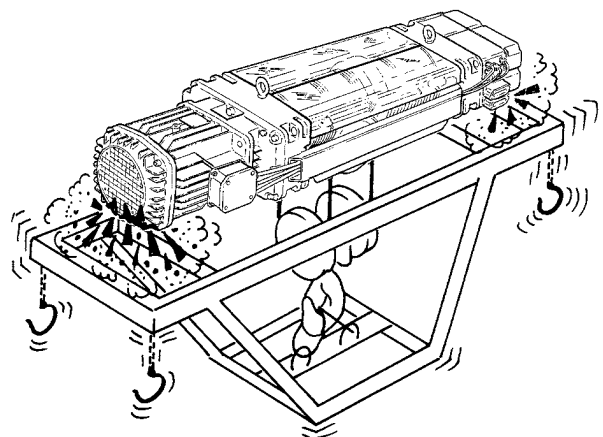

fig. 105
- those which may collide with parts of the hoist or trolley (fig. 105).